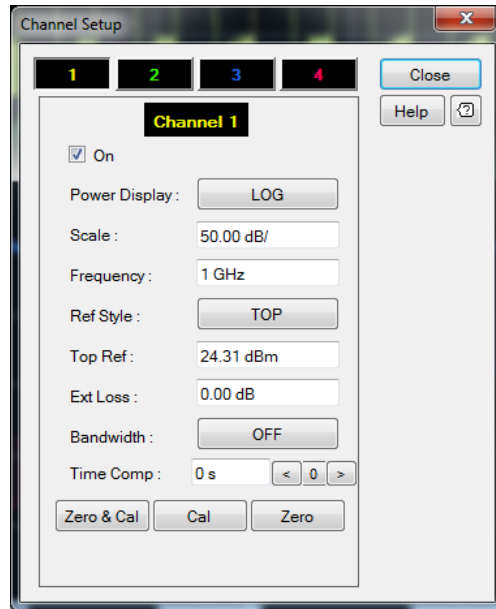

Figure 2-8 RF input Channel Setup dialog
- 2 For the RF input channel, the Channel Setup dialog is displayed as shown in Figure 2-8.